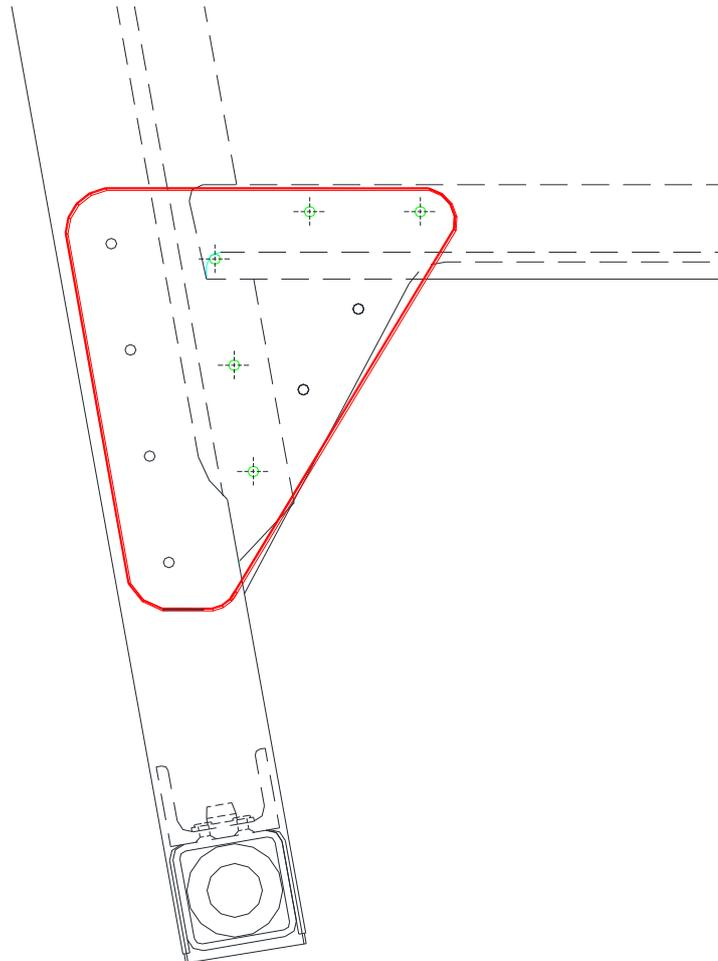

Figure 3 – Seat back patch location, LHS of seat shown. View is from behind seat.
2. Remove rivets in the seat back in the location of the patch as depicted with crosshairs, below in Figure 3.
3. Position the new seat back patch as shown below in Figure 3.